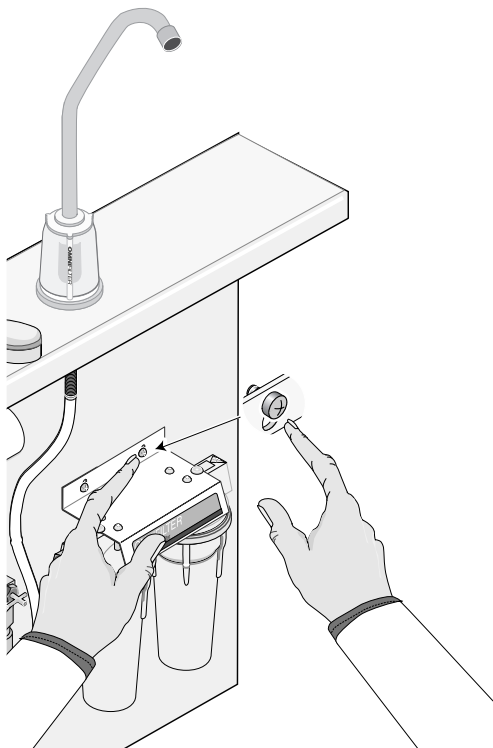

Figure 8
13. Install the filter assembly onto the mounting screws installed in step 2 and tighten the mounting screws. See Figure 8.